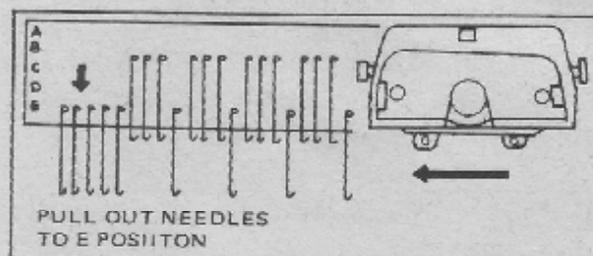

Fig. 1
2. Select the needles according to the relative knitting diagram and knit one row. (Fig. 1)